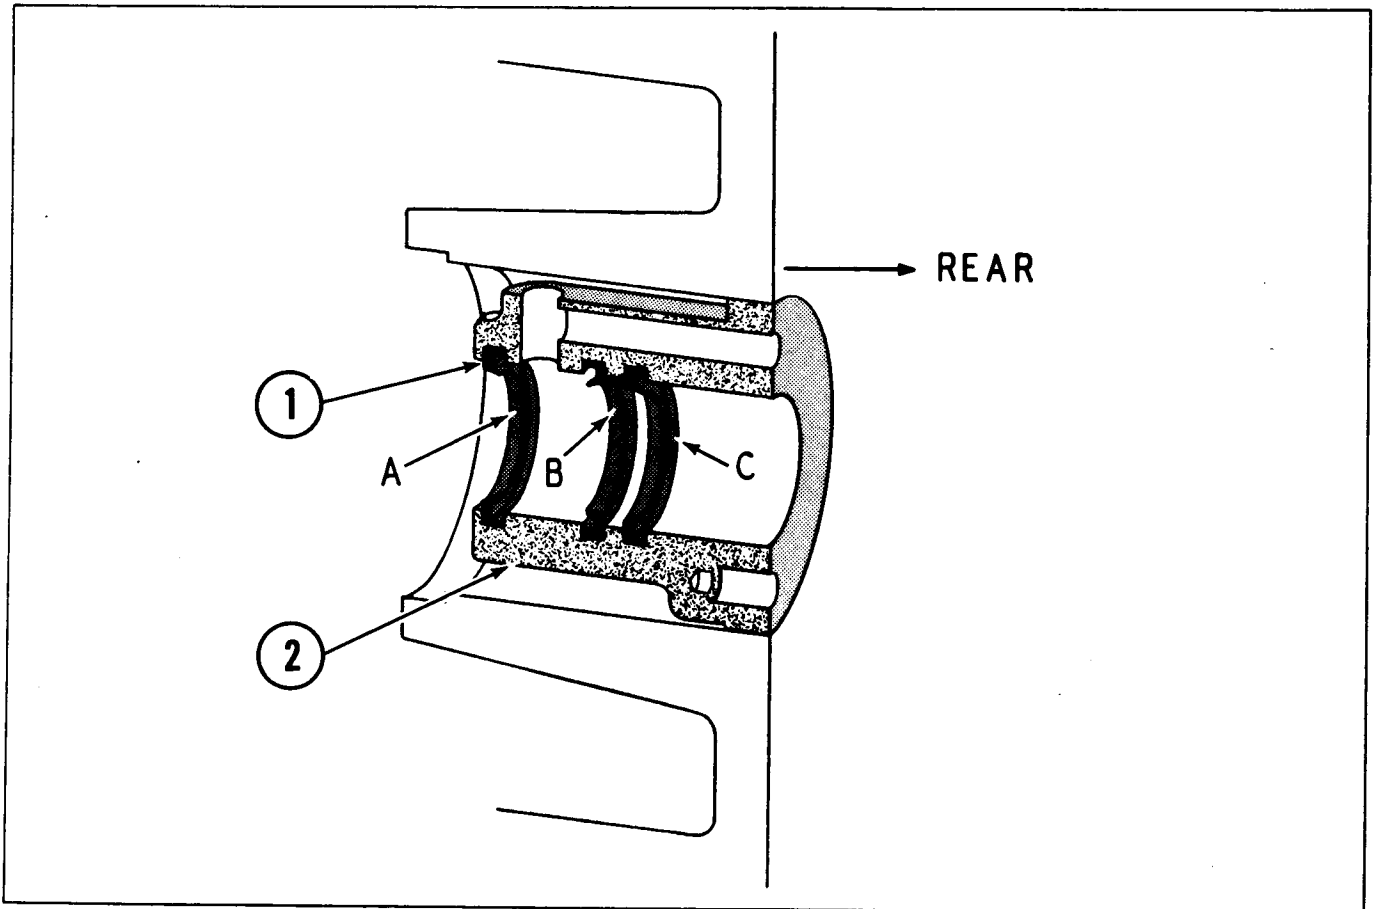

Figure 3-127
Prior to removal mark the location of the oil supply cover (2) in the front cover (1) as an aid during assembly. Use a drift to remove the supply cover from the front cover. To remove and install seal rings, refer to Fig. 3-127.
With a sharp instrument, pierce and remove seal rings (Fig. 3-127) from oil supply cover.
Install seal rings (1, Fig. 3-127) in oil supply cover (2) starting from rear of cover.